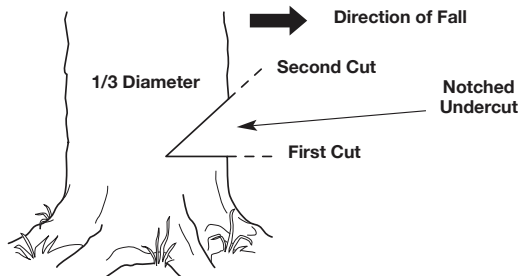

Fig. 11
1. Make a horizontal cut into the trunk of the tree (Fig. 11). The cut should be about 1/3 the diameter of the tree and close to the ground. To prevent the guide bar from being pinched by the weight of the wood, always make this cut first.
2. Make a 45° cut into the trunk of the tree, above the first cut (Fig. 11). Continue cutting until the two cuts meet.